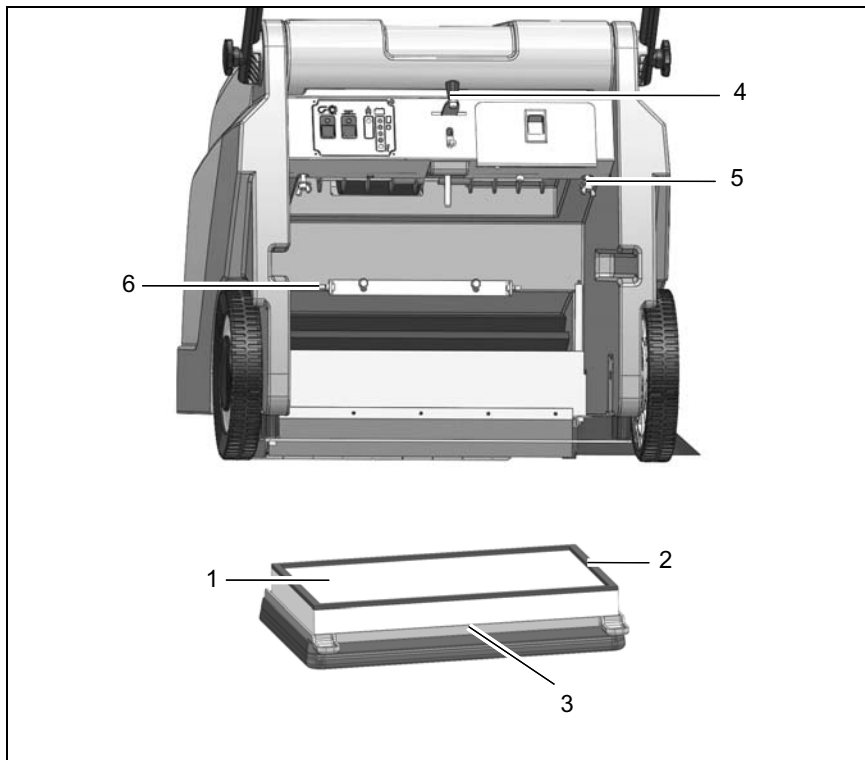

Fig.10
Clean the filter (Fig. 10/1) in the dust vacuum as necessary using the shaking device (Fig. 10/4). In the case of extreme accumulation of dirt, clean the filter as follows:
2. Loosen the wing bolts (Fig. 10/5). Pivot the filter support frame (Fig. 10/3) down and remove it.
5. Insert the correct side of filter in the filter support frame. The sealing strip (Fig. 10/2) must point towards the suction turbine!
6. Hook the filter support frame in the holder (Fig. 10/6) and fix in place with the wing bolts.
Check the filter (Fig. 10/1) every 250 operating hours for signs of wear and change it as necessary.
2. Unscrew the wing bolts (Fig. 10/5). Pivot the filter support frame (Fig. 10/3) down and remove it.
4. Insert the correct side of the new filter in the filter support frame. The sealing strip (Fig. 10/2) must point towards the suction turbine!
5. Hook the filter support frame in the holder (Fig. 10/6), if necessary, and fix in place with the wing bolts.
Check the fill level of the sweepings container (Fig. 10/1) at regular intervals (max. load capacity 25 kg) and empty as necessary.
1. Switch the machine off and pull the locking mechanism (Fig. 10/2) on the sweepings container (Fig. 10/1) upwards.
2. Pull the sweepings container to the rear out of the machine using the handle (Fig. 10/4) and dispose of the waste according to the applicable environmental laws.
Check the seal (Fig. 10/3) weekly for signs of wear and change it as necessary.
1. Switch off the machine and pull the locking mechanism (Fig. 10/2) on the sweepings container (Fig. 10/1) upwards.
2. Pull the sweepings container (Fig. 10/3) to the rear and out of the ma-
chine using the handle (Fig. 10/4).